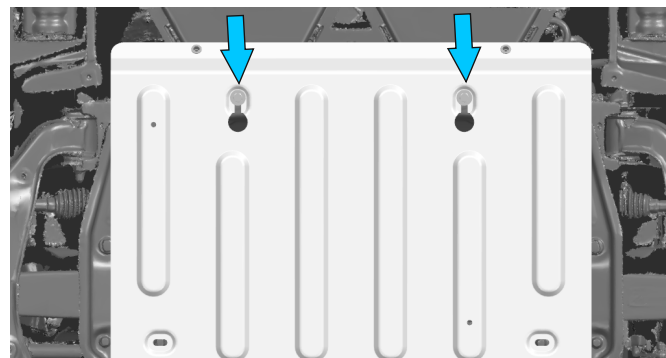

Fig. 6
6. Put the skid plate 2 (item 2) on pre-installed bolts M8x40 (item E), as shown in fig.6.